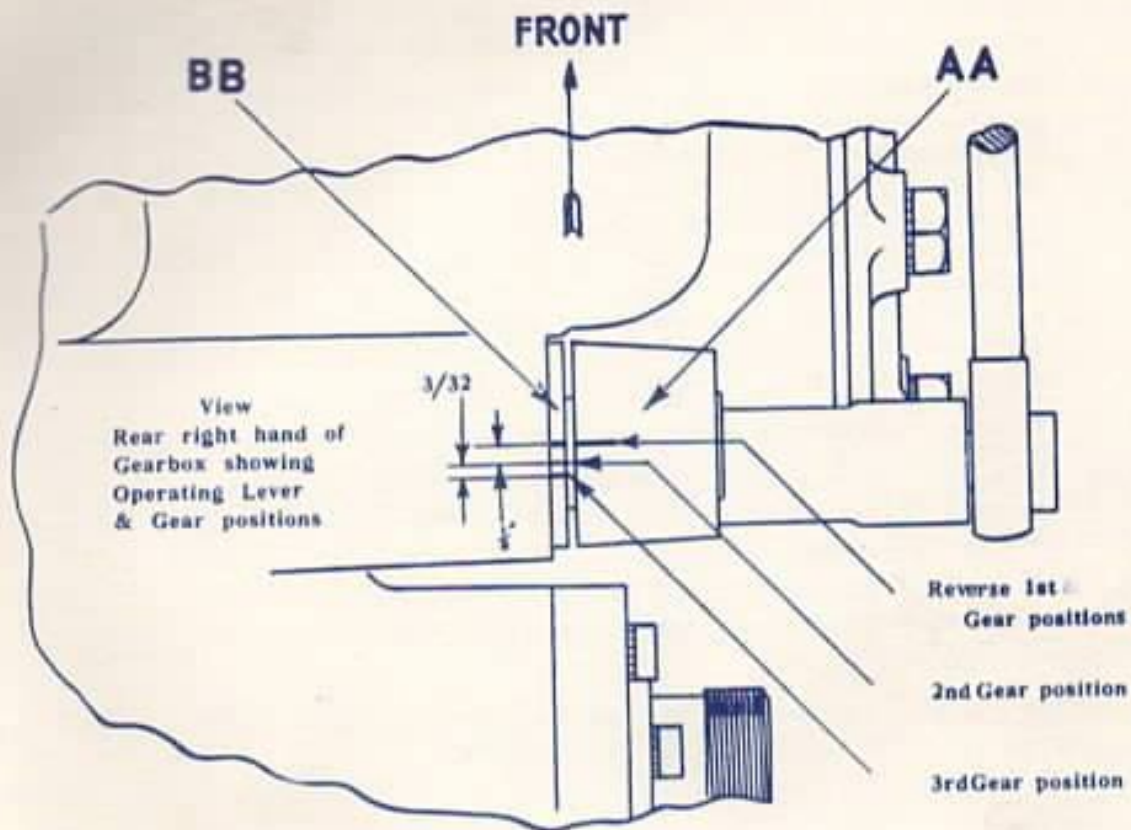

FIGURE 3
- 3 Select and engage reverse gear, adjust the automatic adjusting nut "A" until the two marks on the bus bar operating lever "AA" and bus bar operating bush "BB" are in line, see top figure 3. The pedal should be allowed to return sharply when making these adjustments to ensure there is no sticking of the band operating mechanism.
Note.—See Figure 3, for lever marked positions.